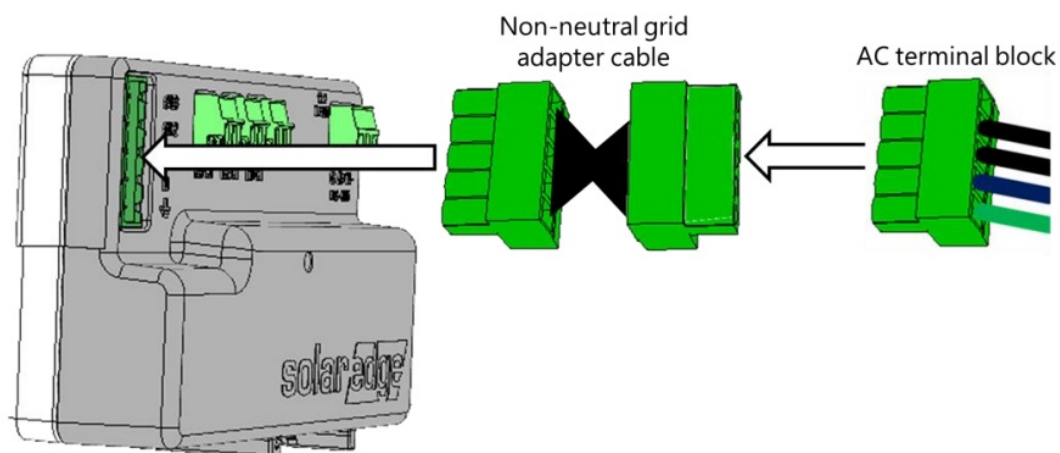

Figure 6: For non-neutral grid: Insert the adapter cable between the meter's AC socket and the wired AC terminal block
- Detach the AC terminal block from the meter, and attach the non-neutral grid adapter cable in its place. Then attach the AC terminal block to the other side of the adapter cable, as shown in Figure 6.